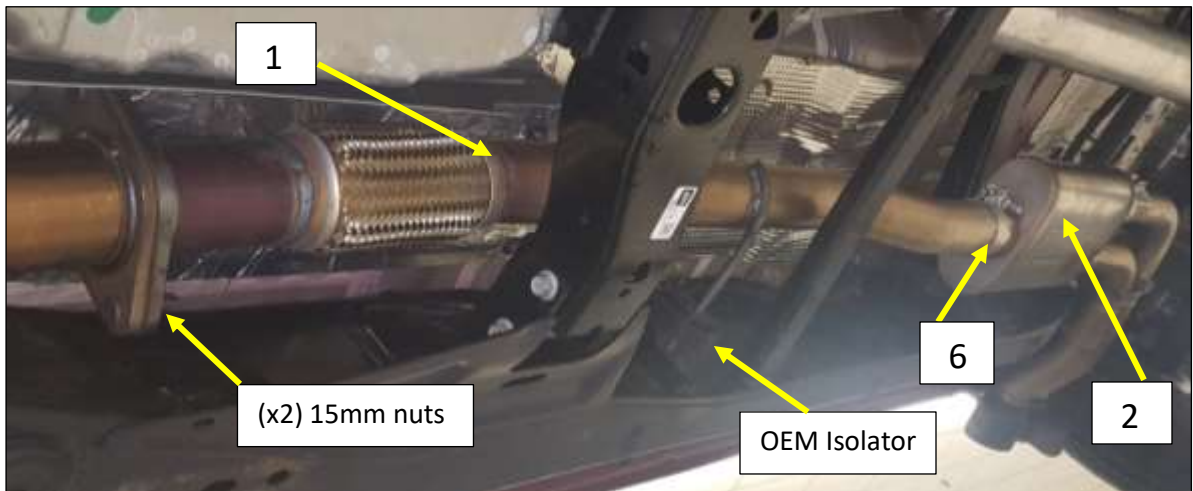

Figure 2
3. Install the Flowmaster Muffler inlet pipe **(1)** into the vehicle and on to the studs at the catalytic converter 2-bolt flange. **Fig. 2**
4. Install the hanger rod into the OEM isolator. **Fig. 2**
5. Install the (x2) 15mm nuts on to the studs at the 2-bolt flange and tighten. **Fig. 2**
6. Install a supplied 3.0" band clamp **(6)** on to the muffler inlet with the bolt at the top and the nut facing the ground. **Fig. 2**
7. Install the muffler **(2)** on to the muffler inlet pipe and level with the ground and Flow FX logo running front to back. Tighten the clamp to allow for adjustment. Support the muffler with a jack stand. **Fig. 2**